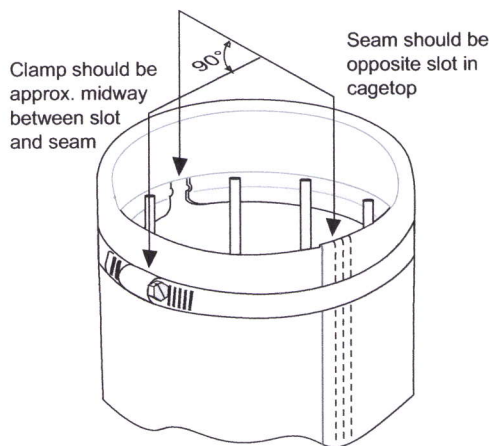

Figure 2
3. Loosely install a new clamp around the top of the bag/cage combination, with the clamp screw positioned midway between the gap in the roll band top and the bag seam (see figure 2). The clamp should be seated over the first groove, just tight enough to stay in place. Install a new optional felt seal around the bag cup. This seal helps prevent leakage of fine particulate.